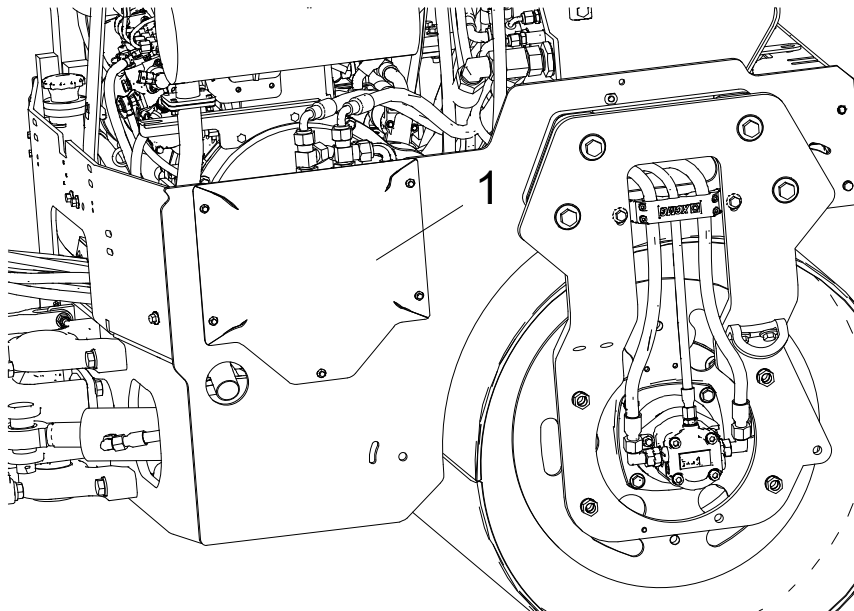

Fig. 6-8: End Cover
4. Install the cover plate (see 1 in Fig. 6-8) on rear frame of hydraulic travelling pump.